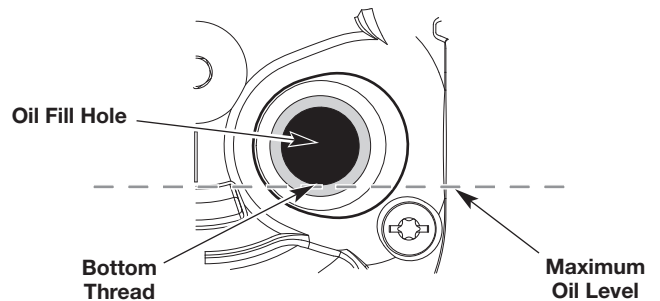

Fig. 17
5. Look into the oil fill hole; use a flashlight if necessary. **The oil level should just touch the bottom thread of the oil fill hole** (Fig. 17).